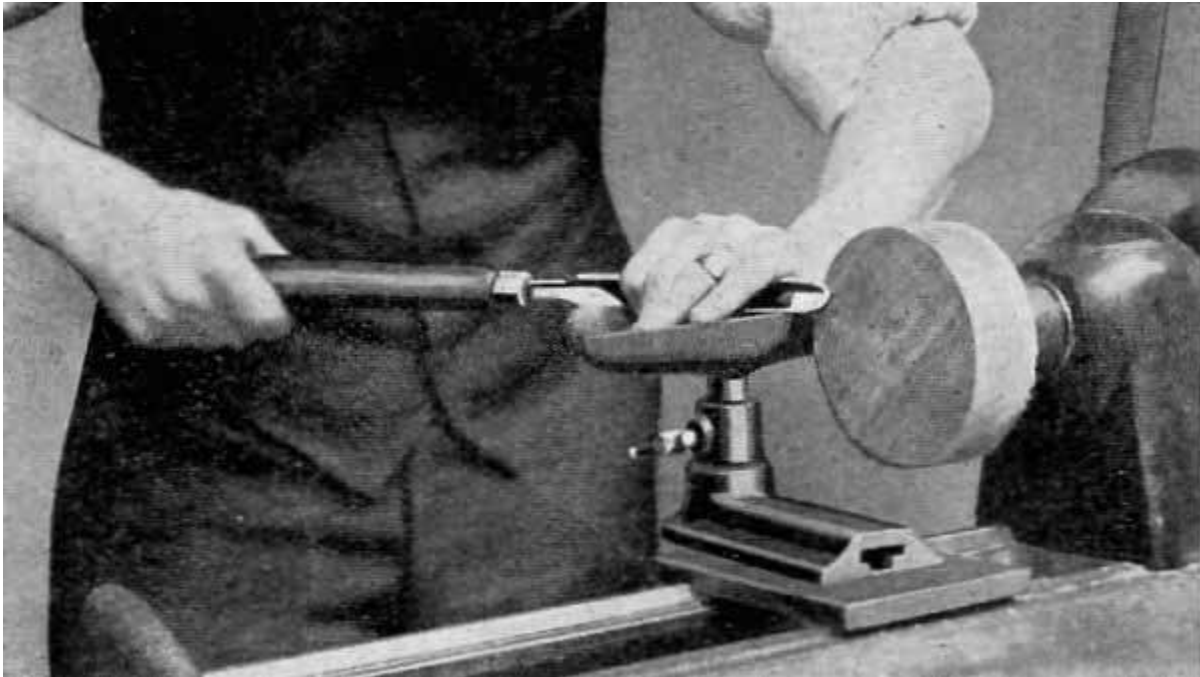

Fig. 15.
4. ROUGHING CUT ON THE FACE. ($\frac{3}{4}$ " GOUGE.) FIG. 15. The rest is now placed parallel to the bed of the lathe and slightly above the center of the spindle. Place the gouge on the rest on its edge with the grind toward the stock and parallel to the face to be surfaced. The nose of the gouge is the cutting point.